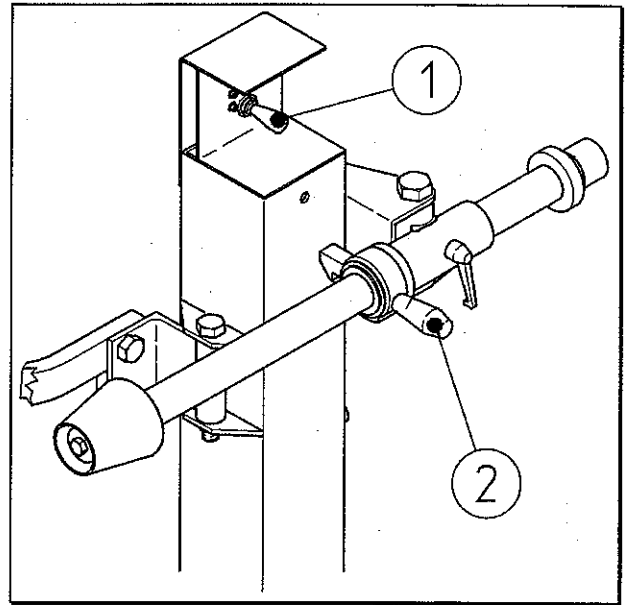

Fig.9
- A. Operate the lever upwards (#1 Fig.9) to raise the mobile column and consequently the roller and the lower disco.
- B. Operate the lever downwards (#1 Fig.9) to lower the mobile column and consequently the roller and the lower disco.
- C. Operate the unlock lever to release the roller arm (#2 Fig.9). Slide the horizontal arm all the way to the rear and swing the roller arm to bring the roller at rest position. Repeat the opposite operations to bring the roller into the working position.